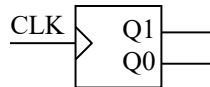

Figure 2: Simple counter block diagram.
1. Design a counter (shown in Figure 2) to count through the sequence 00, 01, 11, 10, 00, ... Note that there is only a single input (CLK) and two active-high outputs (Q1 and Q0). (To start the counter at a known value, use the pre-sets and pre-clears of the two flip-flops.)